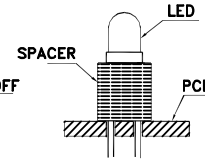

Fig. 4
3. Use stand-offs (Fig.3) or spacers (Fig.4) to securely position the LED above the PCB.